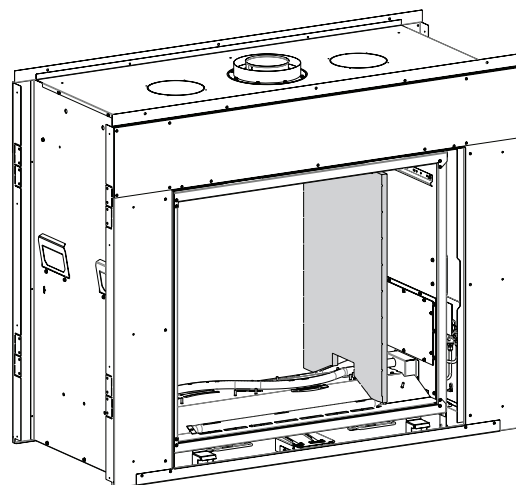

**Figure 57**
3. Remove the top liner bracket and top liner **See Figures 57 and 58.**